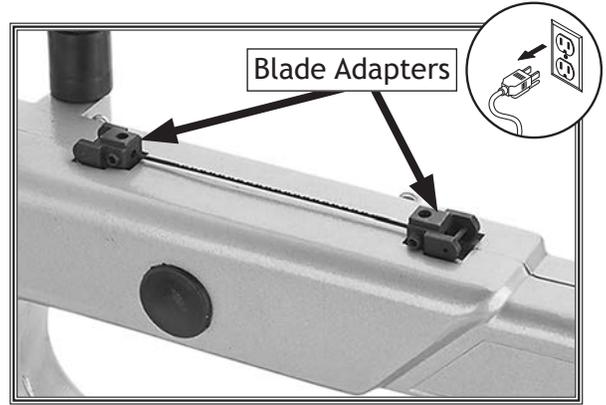

Figure 30. Adapters in indexing slots.
4. Place adapters and blade in indents on top arm, as shown in Figure 30, with blade facing up.